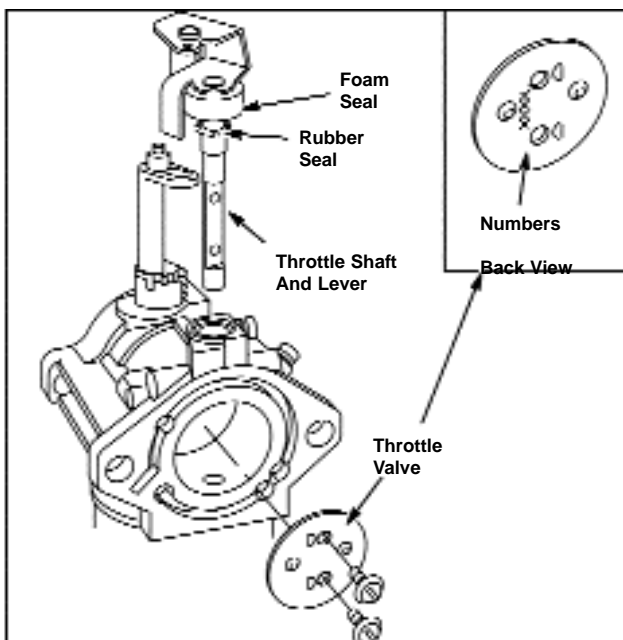

Figure 43 - Removing Throttle Shaft
5. Hold throttle shaft and lever to closed position, and remove two (2) throttle valve screws. See Figure 43.